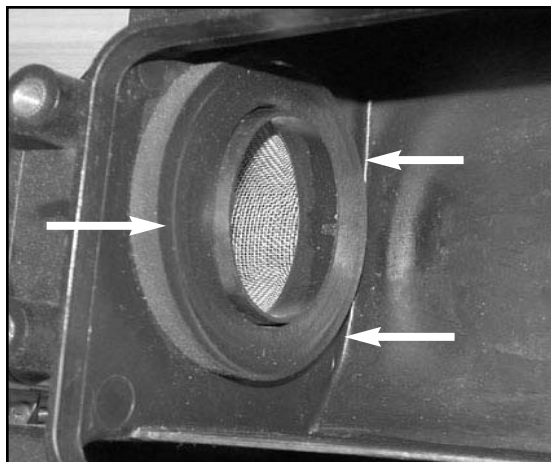

Fig. 1
4. Apply the provided gasket around the intake tube. (Fig. 1)